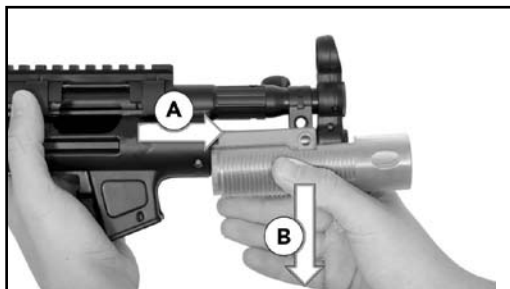

Fig. 32 – Remove pistol grip
7. Pull handguard towards muzzle (A) and downwards (B) to remove it (Fig. 32).